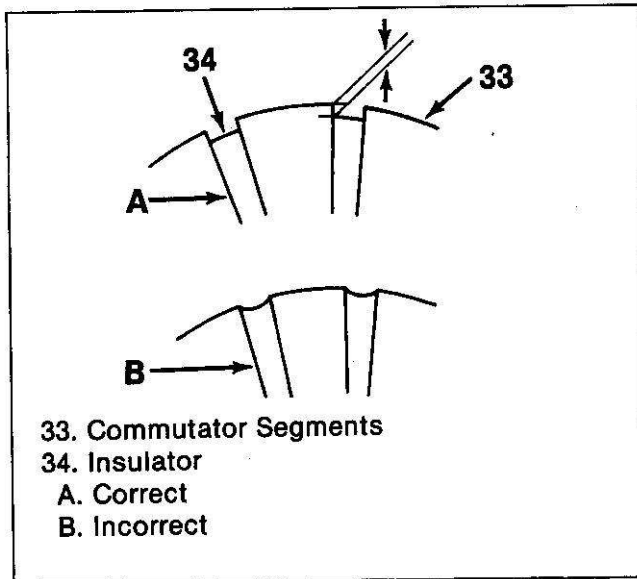

Figure 28. Checking Commutator Segments
- Commutator segments for wear or damage. The depth of each segment must not be less than 0.2 mm (0.0079 in) (figure 28).